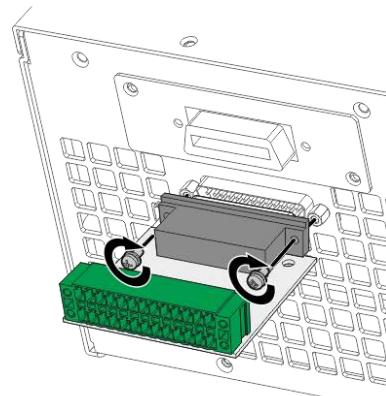

Figure 1-4 Analog Terminal Docking Board
2. Figure 1-4 shows the docking board of the Analog terminal on the rear panel. The installation is shown below.